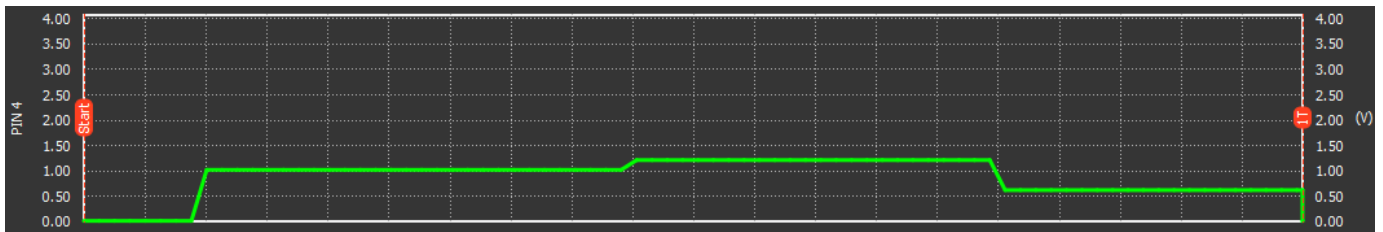
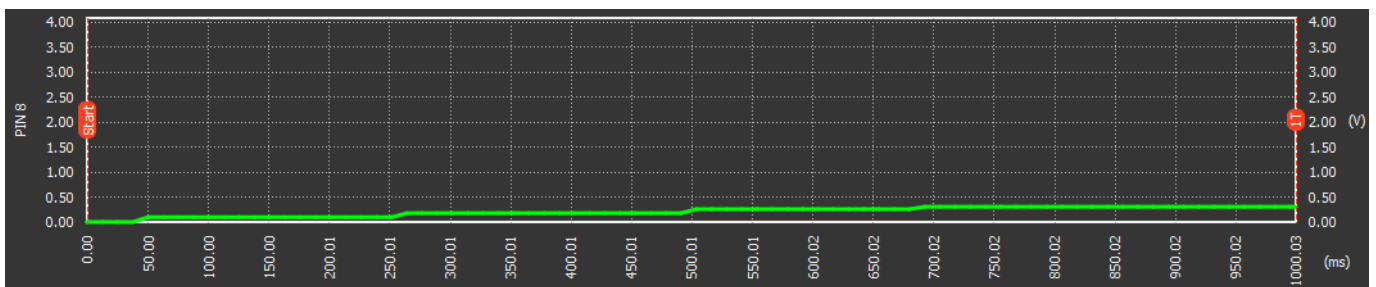

Figure 19. PIN 4 Signal Diagram
Figure 20. PIN 8 Signal Diagram
*For testing purposes, a custom Input Signal from PIN4 and PIN8 are generated using Signal Wizard in GreenPAK2 emulation tool. As you can see in Figure 19 and Figure 20.*